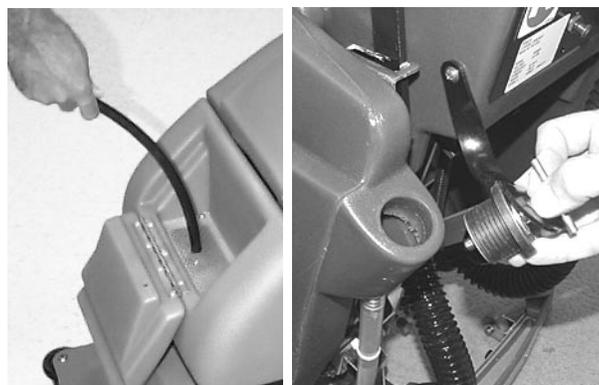

FIG. 9
3. Open solution fill door at front of machine and fill solution tank with 38L (10 gal) of clean water, 60°C (140°F) maximum temperature. Or use the rear fill port to fill solution tank. The clear tube below the fill port has 19L (5 gal) increment markers to indicate amount of water in tank (Figure 9).